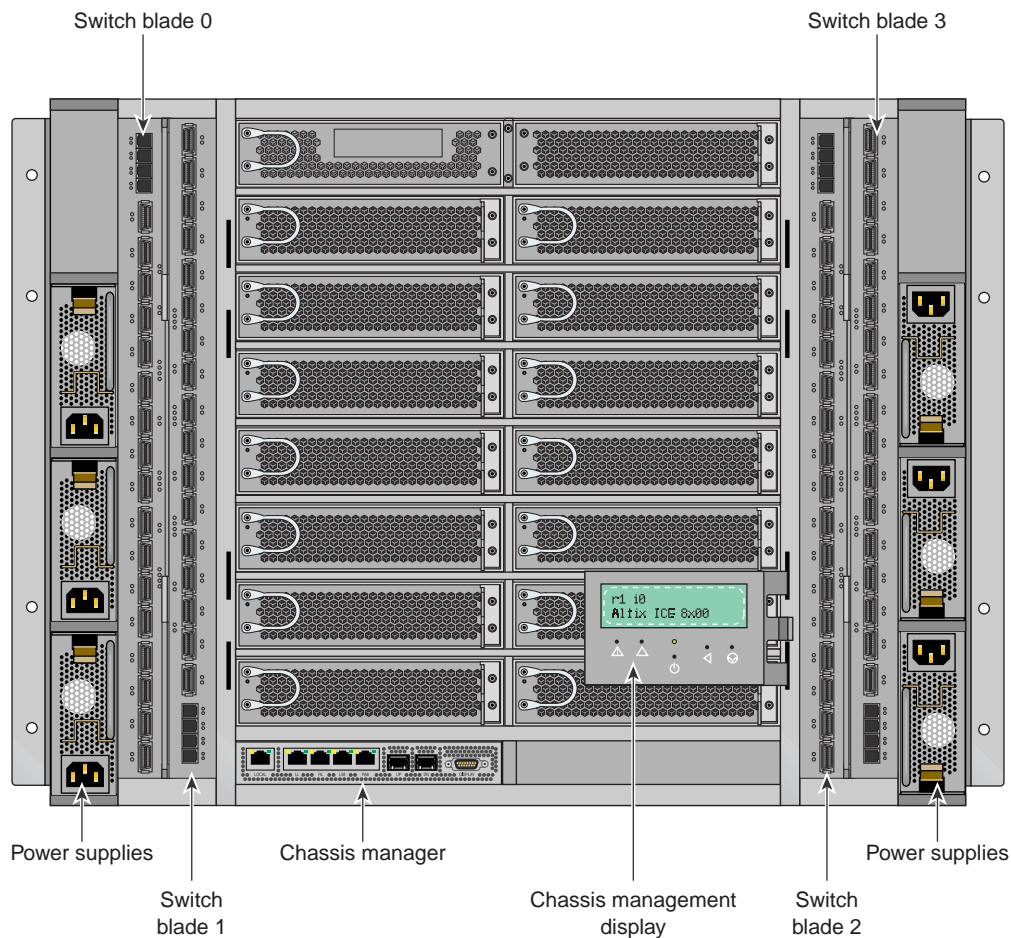

Figure 3-10 Altix ICE 8400 Series IRU System Components Example
- **Individual Rack Unit (IRU).** This enclosure contains the compute/memory blades, chassis manager, InfiniBand fabric I/O blades and front-access power supplies for the Altix ICE 8400 series computers. The enclosure is 10U high. Figure 3-10 on page 42 shows the Altix ICE 8400 series IRU system components.